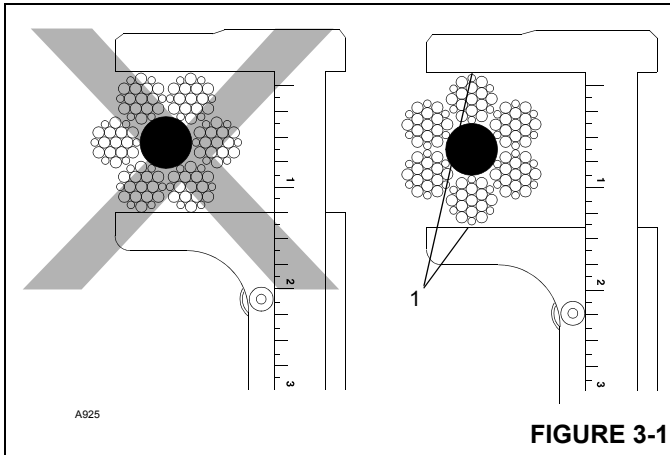

FIGURE 3-1
- Measure the rope's diameter across crowns of the strands when determining if rope has become damaged, refer to Figure 3-1.